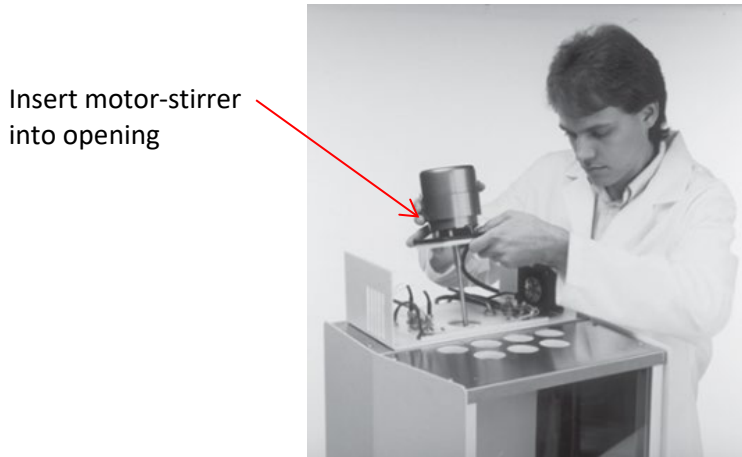

Figure 13: Install Motor-Stirrer
16. Check the motor-stirrer impeller blades to make sure that the flat sections all lie along the same plane (see *Appendix I: Correcting Shaft & Impeller Misalignment*), then insert the motor-stirrer into the opening provided, as shown in Figure 13.